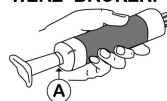

Fig.1
4. IF THE CONCENTRATION IS OVER THE FULL SCALE, THE HIGH CONCENTRATION OF HYDROGEN SULPHIDE REMAINS IN THE ASPIRATING PUMP. BE CAREFUL NOT TO BREATHE THE REMAINING GAS. AFTER MEASUREMENT, THE REMAINING GAS IS PUSHED OUT FROM THE BOTTOM CASE OF THE PUMP (FROM A IN FIG.1) WHEN THE HANDLE IS PUSHED BACK AND PULLED. IN CASE OF THE ABOVE, PUSH BACK AND PULL THE HANDLE WITHOUT CONNECTING THE TUBE AT THE LOCAL EXHAUST VENTILATION DEVICE. REPEAT THIS OPERATION AT LEAST FIVE TIMES IN ORDER TO REMOVE THE REMAINING GAS.